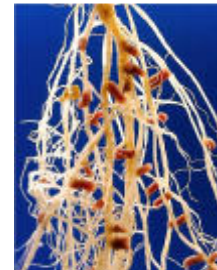

Figure 18.
**RHIZOBIA** are bacteria that live symbiotically with plants (especially legumes), living on the plant's roots. The rhizobia fix nitrogen (from atmospheric nitrogen) for the plant and the rhizobia get energy from the plant. Refer to Figure 18.